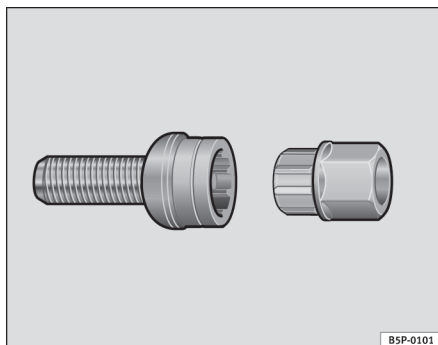

Fig. 155 Anti-theft wheel bolt
- Insert the adapter onto the wheel bolt and push it on as far as it will go ⇒ fig. 155.